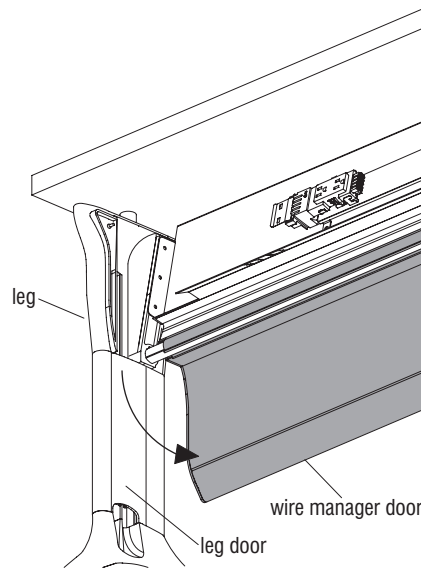

Figure 2
1. Open the wire manager door and swing it down past the leg until it clears the leg door (Figure 2).